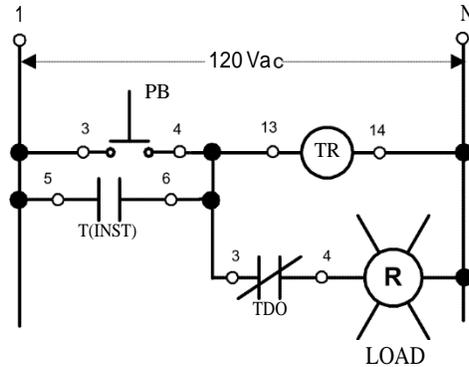

FIGURE 7.15
Step 6: a) Change the connection to terminal 3 of the TDO contact as shown in Figure 7.15.